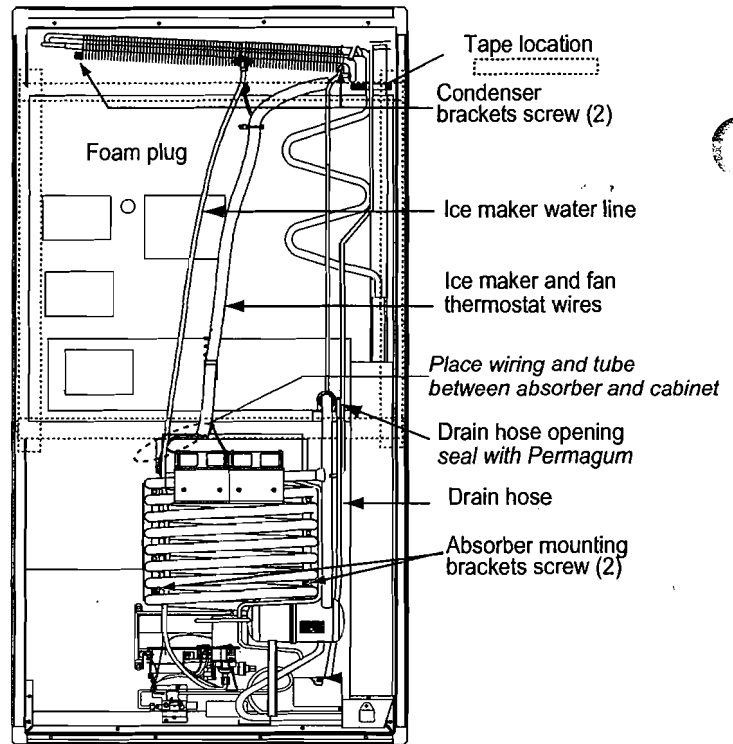

Figure 14. Hardware and wiring-rear of cabinet.
6. Place the ice maker water tube, wiring, and fan thermostatic switch wiring between the cabinet and absorber coils. See Figure 14.
7. Fasten condenser brackets to the cabinet. Screws' location shown in Figure 14. Tighten each #10 x 1/2 inch hex head screw 15 to 20 inch-pound.
8. Fasten the absorber coil brackets to the cabinet. Screws' location shown in Figure 14. Tighten each #10 x 1/2 inch hex head screw 15 to 20 inch-pound.
9. Tape foam plug backing edges to cabinet. Use two inch wide adhesive backed HVAC aluminum tape or poly mask sealing tape. See Figure 14.